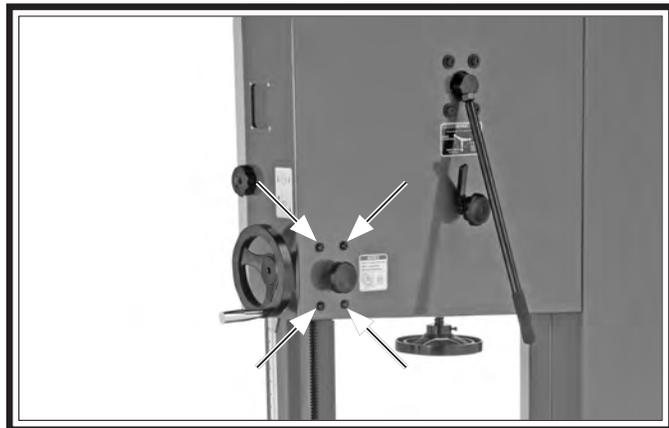

Figure 100. Guide post parallelism adjustment screws.
6. Loosen four cap screws shown in **Figure 100** just enough to fit metal shims between frame and guide post bracket.
7. Tighten four screws shown in **Figure 100**, then repeat **Steps 4–5**.